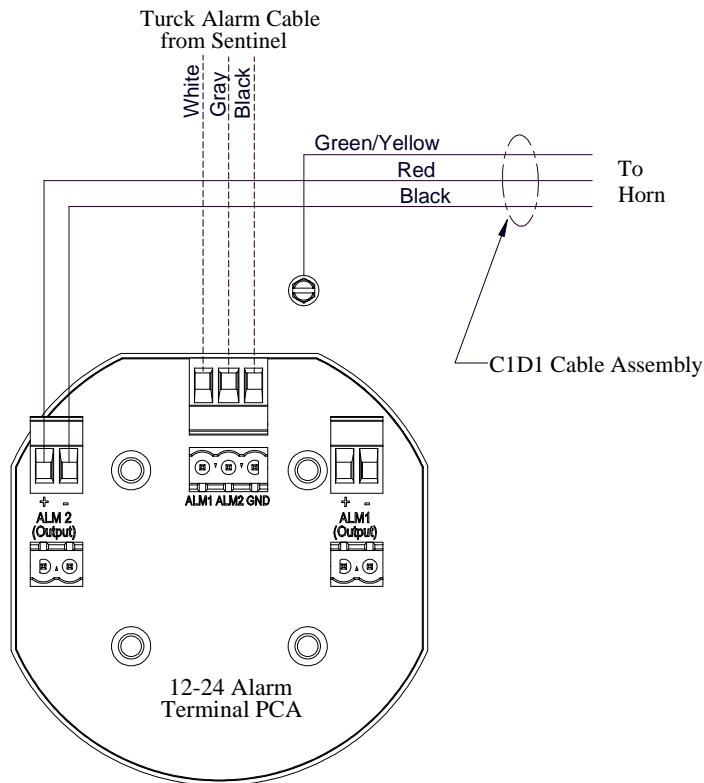

Figure 11 A1 C1D2 Alarm Connections
- a. The horn should be wired to the ‘Wet’ Alarm Output cable per Figure 11.